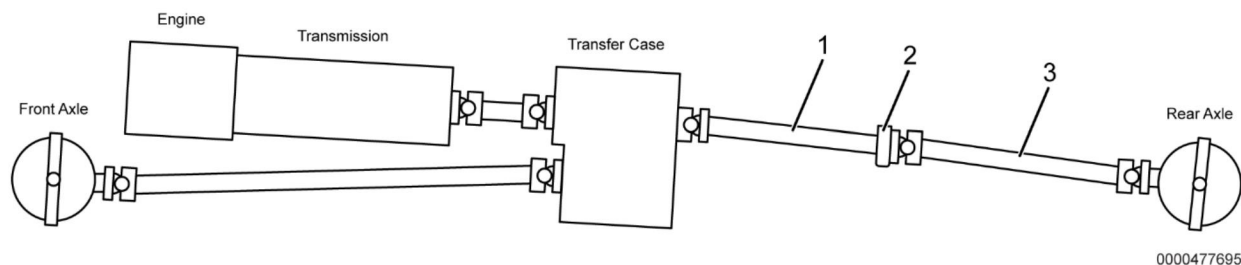

Figure 1. Driveline
5. Remove driveshaft 1 (Figure 1, Item 1) and driveshaft 2 (Figure 1, Item 3). Refer to appropriate service manual for proper removal. Discard driveshafts.
6. Remove center support bearing (Figure 1, Item 2) and mounting bracket. Refer to appropriate service manual for proper removal. Discard center support bearing and mounting bracket.